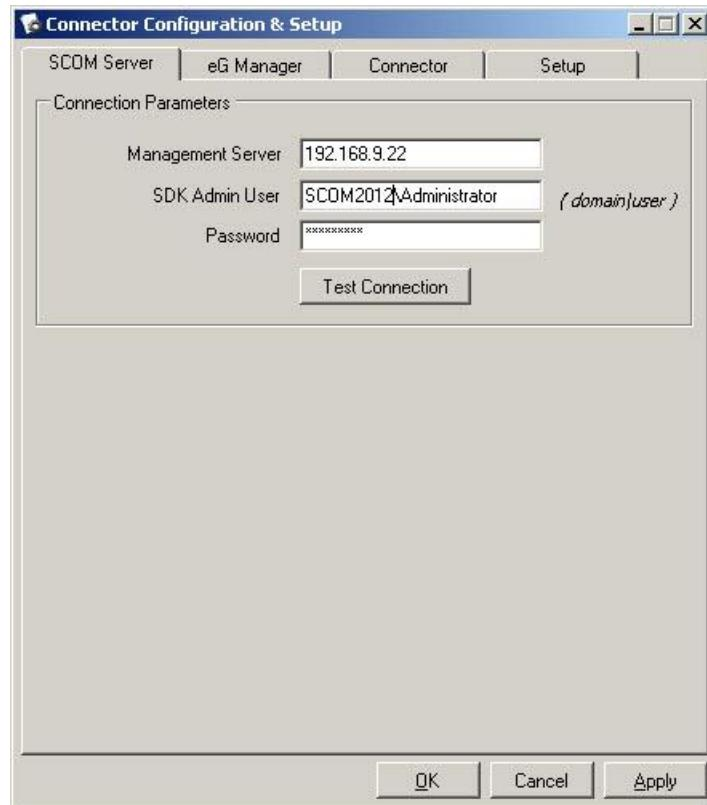

Figure 2.8: The SCOM Server tab page
1. Upon launching the tool, Figure 2.8 will appear with the **SCOM Server** tab page open.
2. If the eG manager is integrating with SCOM 2012/2016, you can specify the IP address/host name of any management server in the environment in the **Management Server** text box of Figure 2.8.